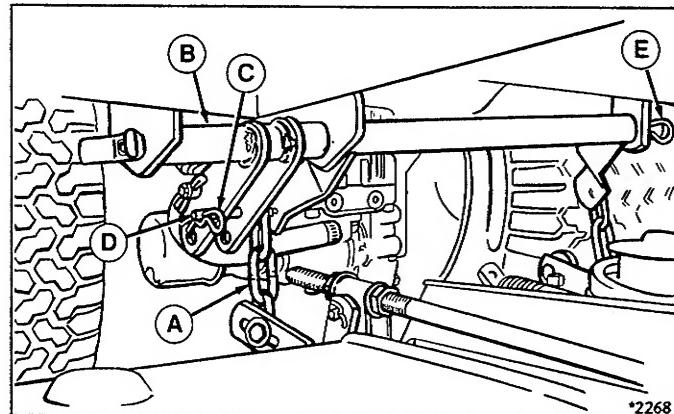

Figure 21. 50" Mower Shown
5. On 44" mower, disconnect mower lift chain from tractor lift arm by removing safety clip and washer from weld stud. Reinstall hardware on tractor lift arm for storage. On 50" mower, remove mower lift chain (A, figure 21) from tractor lift (B) by removing safety clip (C) and clevis pin (D) on right-hand side. On left-hand side, remove lift chain from lift arm by removing spring clip and washer. Reinstall hardware for storage.